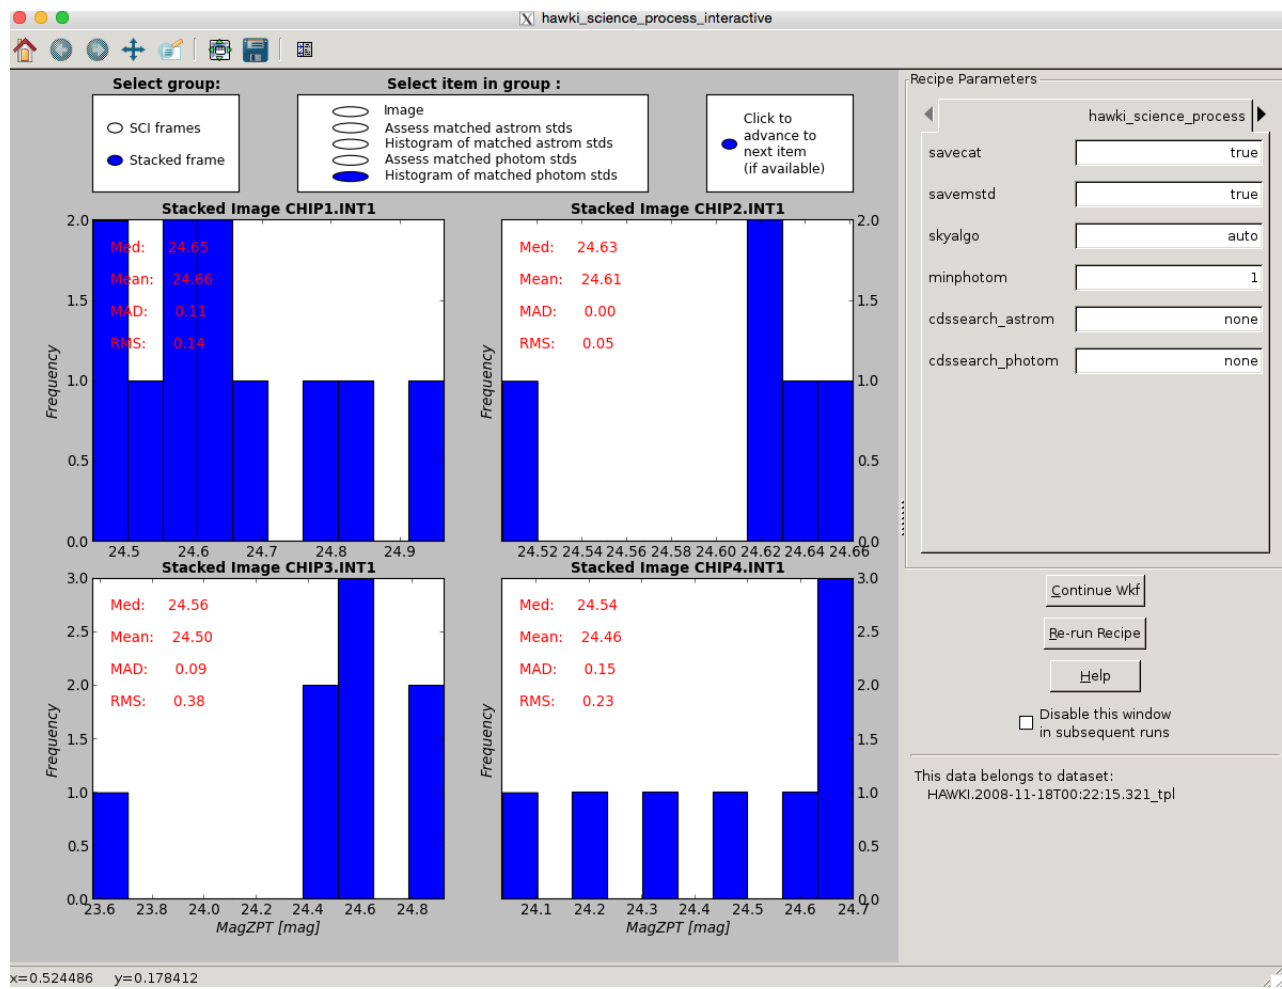

Figure 8.13: Example interactive window for evaluating the results of `hawki_science_process`; a histogram of magnitude zero points from Figure 8.12 are shown.
- Histogram of matched photom stds (Fig.8.13): if the recipe parameter `savemstd` is set to `true` and "Stacked frame" is selected in the lefthand radio button box, this button shows a histogram of the magnitude zero points from the item above. All data points are split into 10 bins in the histogram. The x-axis of each panel is magnitude zero point in units of magnitudes; the y-axis is the frequency of occurrence. The red text in the upper left of each panel shows some statistical values describing the distribution of all the data points (median, mean, median absolute deviation, and rms deviation from the mean).